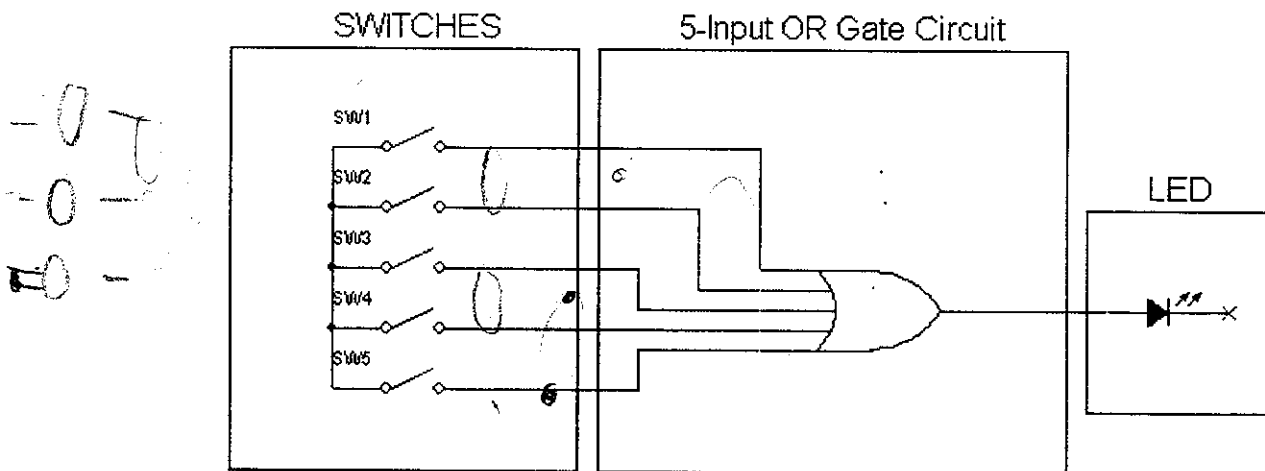

Figure 1 - 5-Input OR Block Diagram
2. Design a digital circuit using one or more of the OR gates in a single 7432 IC that will provide the same function as a 5-input OR gate would (as depicted in Figure 1).